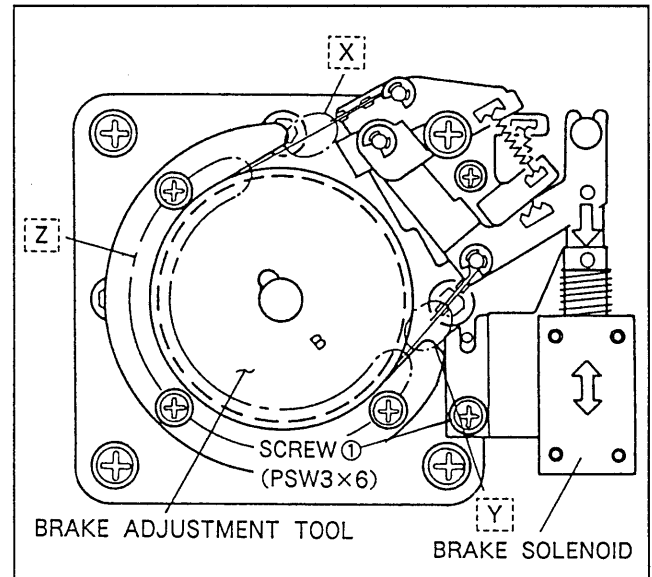

Fig. 6-8-3. Solenoid Assembly Position Adjustment
- While pressing the plunger of solenoid to be absorbed by hand, adjust the position of the brake solenoid so that the clearance between the brake adjustment tool and brake band is not less than 0.2 mm in the entire Z area range without the brake band becoming deformed in the vicinity shown by X and Y in the Fig. 6-8-3. After the adjustment tighten screw ① properly and secure the brake solenoid.